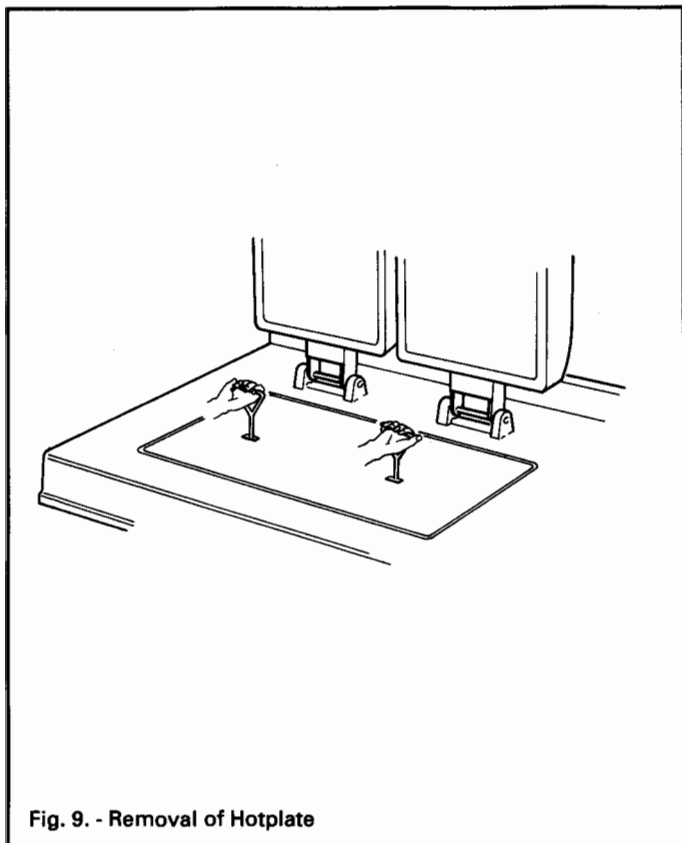
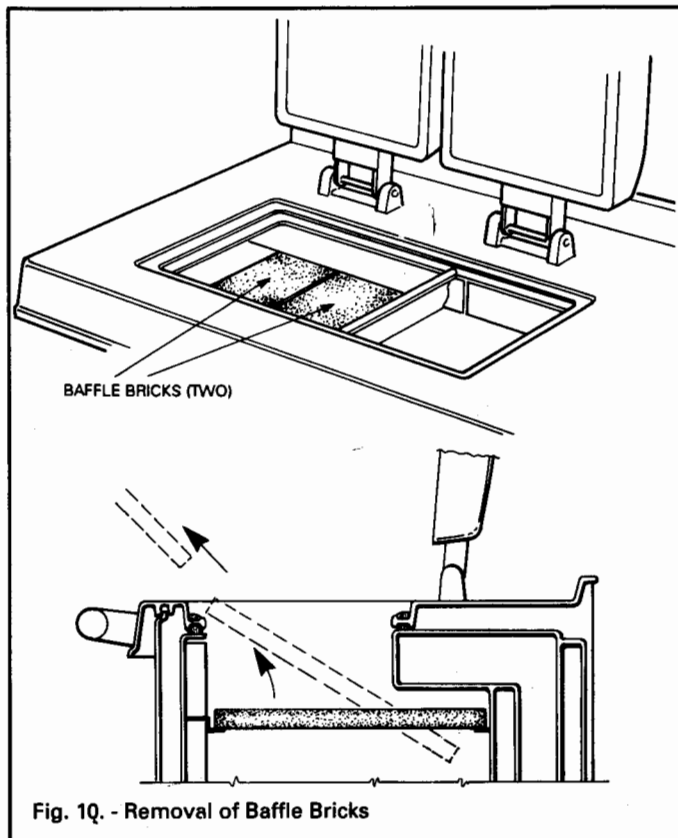

Fig. 9. - Removal of Hotplate
Fig. 10. - Removal of Baffle Bricks
4. Lift up the insulating covers and remove the hot plate (see fig. 9 under commissioning instructions). The removal will expose the two brick baffles (see fig. 10 under commissioning instructions).
Lift out the hot plate (see Fig. 9). Carefully remove the two baffle bricks which are fitted under the hot plate by separating them and lifting at the front (see Fig. 10).
Undo the 4 screws holding the blast tube to the burner (fig 9). Clean the diffuser and ignition electrodes taking care not to wipe nozzle tip itself. Check electrode gap and adjust if necessary ($4\text{mm} \pm 1$). Check distance between nozzle tip and diffuser is $15 \pm 0.5\text{mm}$ (see fig 10). Clean inside burner, check photo-resistor, electrical connectors and that all grommets are in place.